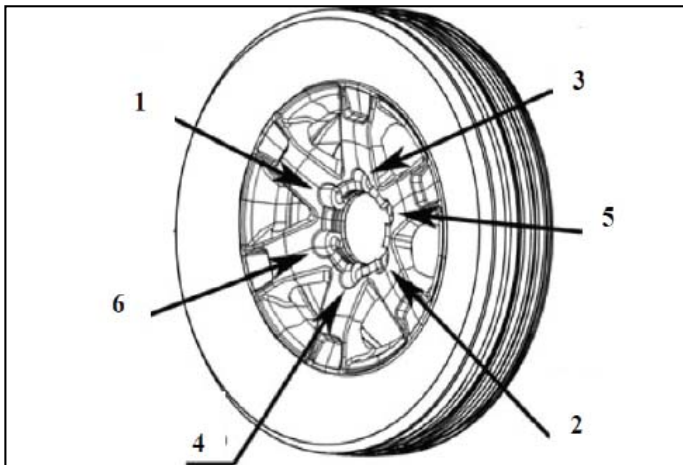

Figure 9
- a. Install wheel/tire assembly on vehicle. Hand start the lugnuts during installation. Tighten lugnuts in sequence 1 through 6. Ensure that the socket does not scuff the wheel. Tighten using a torque wrench. See Figure 9.